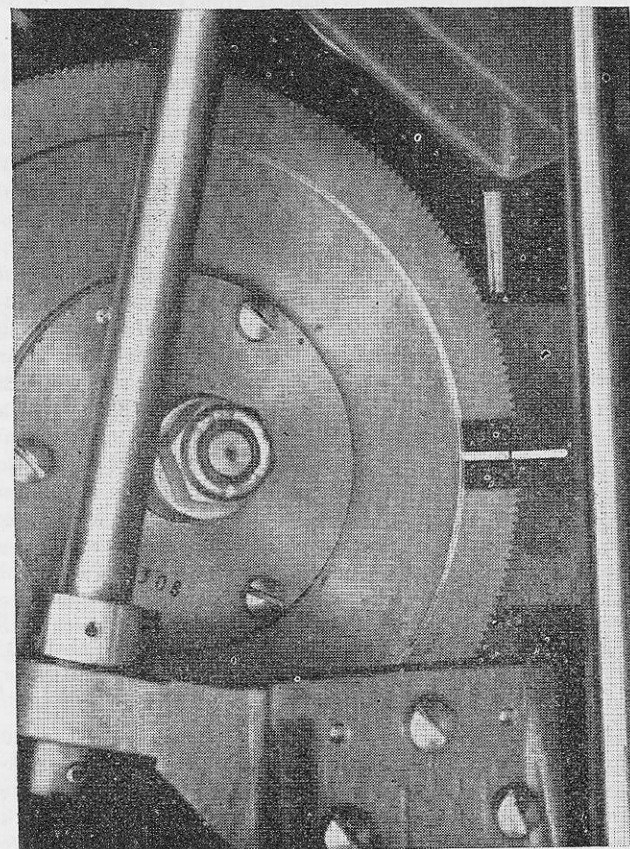

FIGURE 39.—Deflection zeroed.
(1) Remove top cover and front panel.
(2) Observe to see that maximum eccentricity of superelevation cam is downward at 90°. On most directors there are scribed lines on end of cam which will match when this condition is realized. On other directors, it is necessary to determine proper setting by eye alone. If this setting is off, it can be corrected by first loosening the nut holding superelevation cam lever bracket to telescope shaft. Rotate cam to proper position by tapping lightly on lever bracket in direction desired. Tighten nut.
c. (1) Push rate clutch in and move ball cage out to near edge of constant speed disk. Loosen the two screws holding K setting scale to ball carriage. With special wrench loosen lock nut on adjustable arm, being sure to hold micrometer head firmly with finger. Tighten screws holding scale and with a screw driver run micrometer head out until scribed line on head matches 0.05 setting on the scale (zero division point on head should be opposite bottom edge of scale). Make proper number of turns and divisions on micrometer head to set in desired K factor. For a 40-mm gun (muzzle velocity 2750 f/s—0.0580" K setting), set in 6 turns and 13 divisions. Loosen screws holding scale; tighten lock nut; retighten scale screws and run ball cage back to center of disk, by setting deflection gear to zero (fig. 39).
(2) Place electric wire jumpers across elevation limit switch by connecting one end of wires to Y and Z phases of rate motor at fuse block (normally pink and orange) and other ends to connections on top of elevation rate motor switch, being careful that pink wire at block is connected to pink wire at switch. Check for zero rate at 90° (motors on) as indicated by fine dial. If creep in excess of 1°/min. is observed, loosen lock screw on bracket of bar assembly, and turn adjusting screw in direction of rotation of output cylinder until minimum creep is observed. (Keep scopes at 90° at all times during this check.)
(3) Test run-down times as indicated above. After checking run-down from 5° to 0°, if time is not within tolerance, move ball cage as in adjusting for zero rate, until time is within tolerance. Run telescope to 90° and check for zero rate; if off, move cam, as in initial setting, until zero rate is obtained. If any adjustment of this cam is necessary, recheck time from 5° and 0°, and continue adjustments until it is within tolerance. Recheck run-down from 65° to 60°. If time is not within limits, turn adjusting screw on ball cage until it is correct. If any adjustment is necessary at this point, a complete recheck of run-down from 5° to 0° and 65° to 60° as well as zero rate at 90° must be run. When the requirements for all three tests have been satisfied, remove jumper wires from elevation limit switch and fuse block.